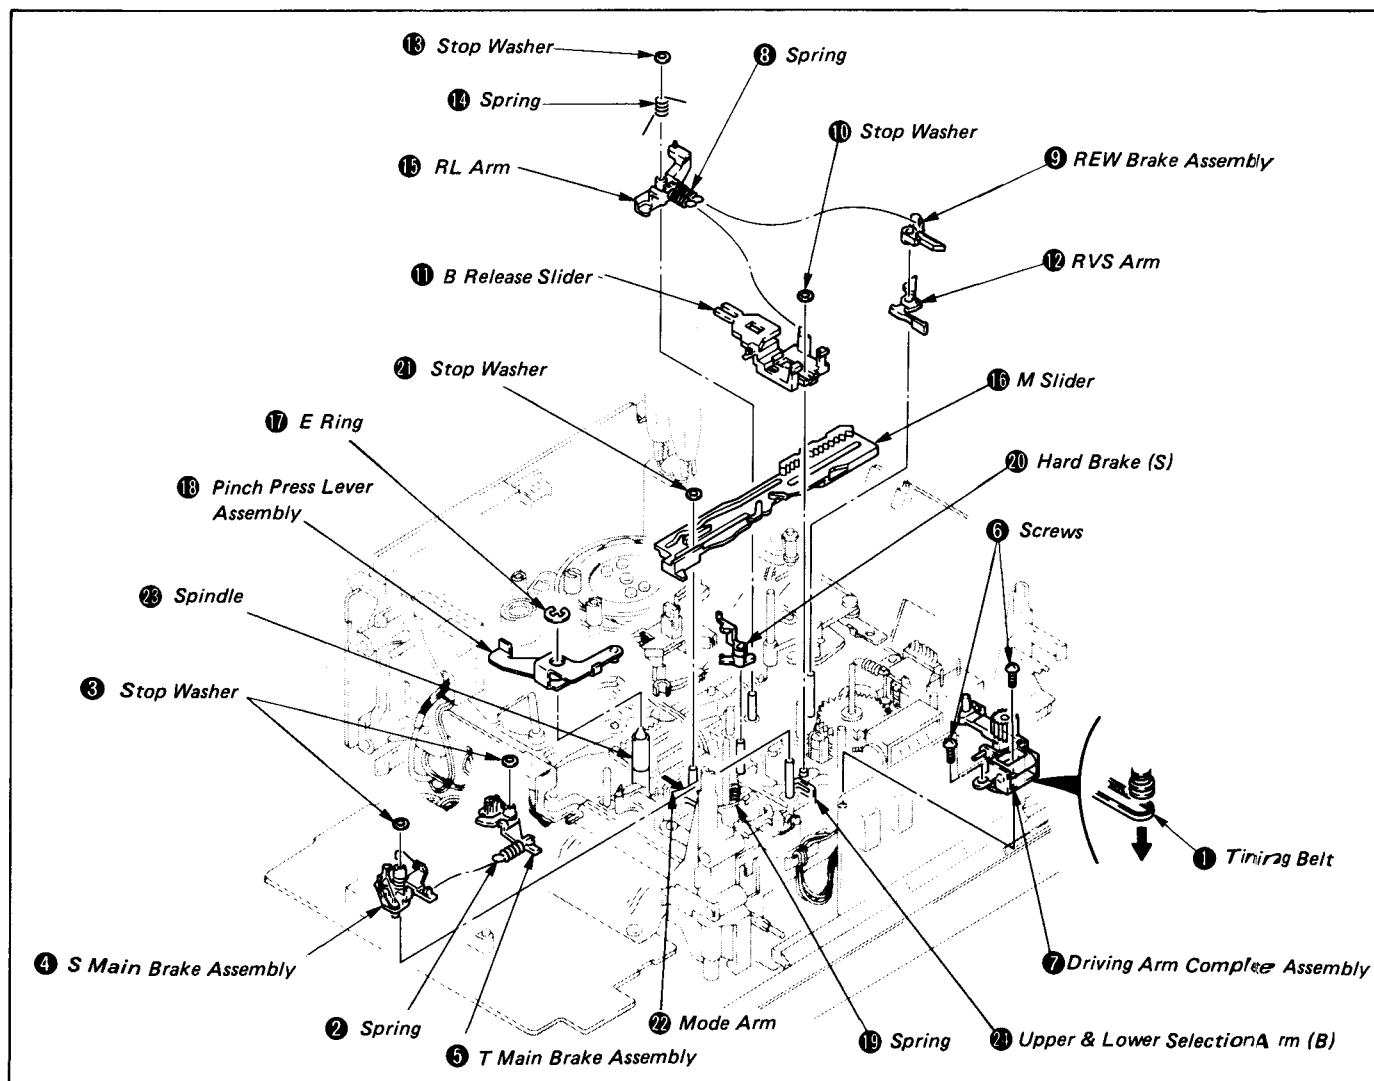
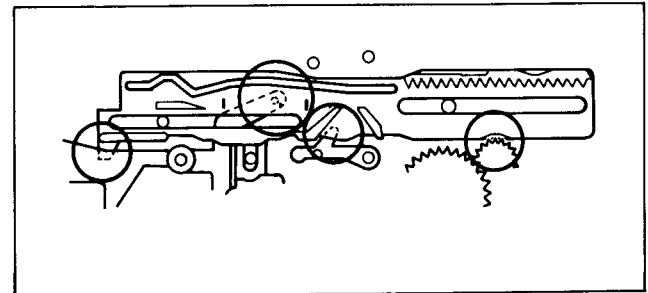
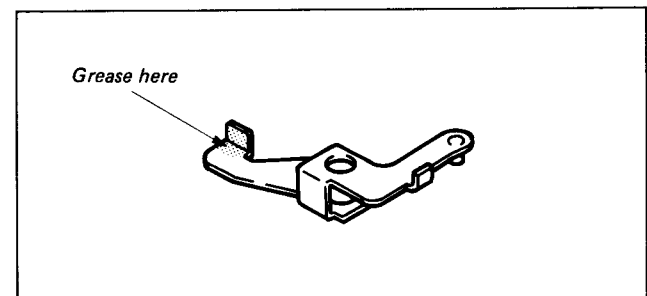

Fig. 1-43
Fig. 1-45
Fig. 1-46
(See Fig. 1-43.)
- 2) Push the mode arm 22 in the arrow A direction, remount the M slider 16 referring to Fig. 1-45 and paying attention to the vertical position relationship with other portions of the slider, and refit the stop washer 21. (See Fig. 1-43.)
- 3) Remount the hard brake (S) 20 and rehook the spring 19.
- 4) Grease as shown in Fig. 1-46.
- 14) Insert the horizontal spindle of the driving arm complete assembly 7 in the groove of the upper & lower selection arm (B) 24, insert the lug of the RVS arm 12 in the dented part of the driving arm complete assembly 7, and tighten two screws 6.
- 15) Remount the T main brake assembly 5 and S main brake assembly 4, refit two each stop washers 3, and refit the spring 2. (See Fig. 1-43.)